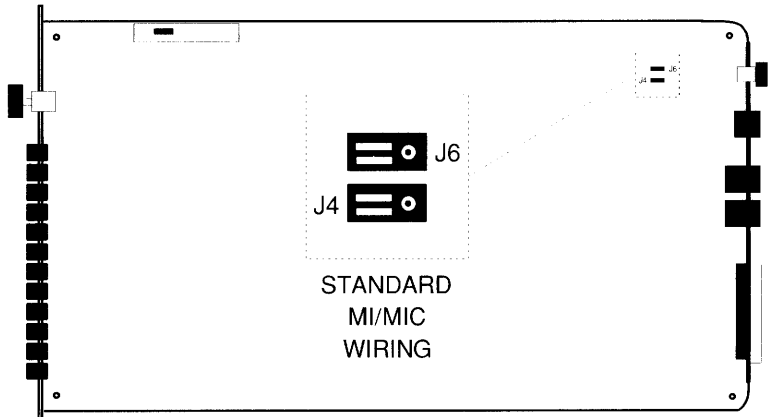

Figure E-1—Courier Modem Board
7. Turn the modem rightside up and locate jumper switches J4 and J6, near the power-adaptor socket. Use Figure E-1 as a guide.
Lift off the jumpers from J4 and J6. Reverse the positions shown in Figure E-1. That is, on each switch, cover the contact closest to the back of the modem and the contact at the center. Make sure the jumpers cover two contacts on each switch, or you'll disable the MI/MIC function.
11. Power on the modem. Try MI/MIC closure again. Check to see that the Off Hook (OH) status light goes on. If you dialed a number, listen for an answer tone from the remote modem. Then drop the DTR signal. The modem should go on hook and the OH status light should go off.
12. If closure is not working properly, review the steps in this appendix. Be sure the jumper switches are in the reverse position of those in Figure E-1. If you still have problems, there may be a problem with the phone cable. Or there may be a problem with your hardware.